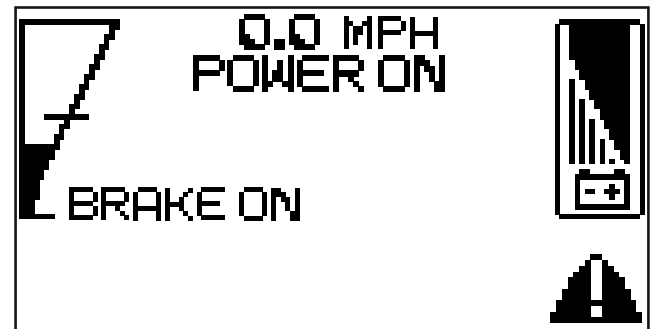

Figure 5-13
4. Once activated (indicator light on and warning symbol on the bottom, right of the LCD screen), the rider can be driven in reverse with the cutting blades engaged. See Figure 5-13.